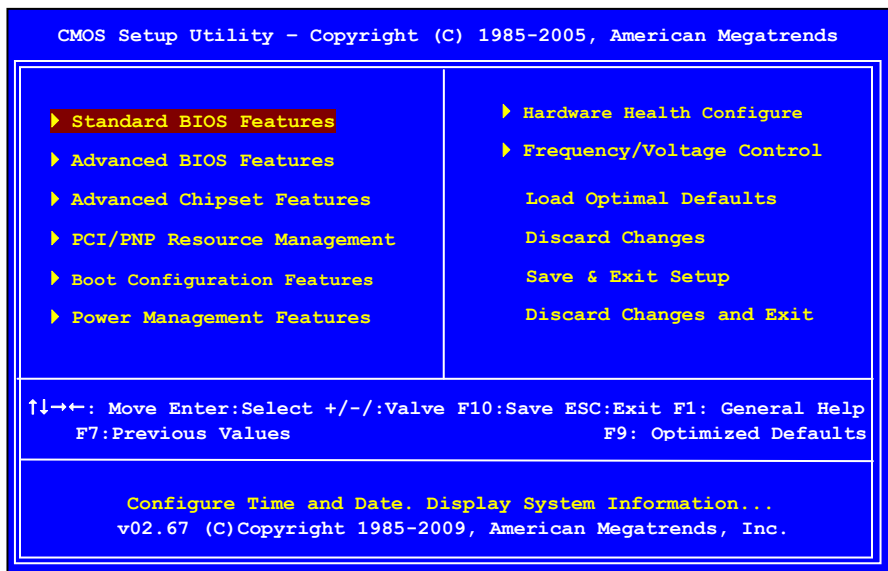

Figure 2. CMOS Setup Utility Main Menu
This motherboard contains seven (7) USB 2.0 ports that are exposed on the rear panel of the chassis (Figure 2). The motherboard also contains three (3) 10-pin internal header connectors onboard that can be used to connect an optional external bracket containing up to six (6) USB 2.0 ports.